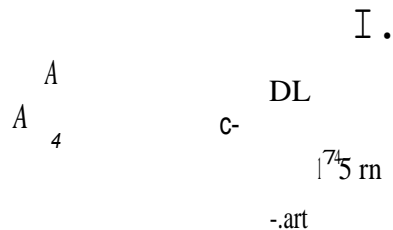

Fig. Q5 (c)
- c. For the Cantilever beam shown in Fig. Q5 (c), plot the SFD and BMD.